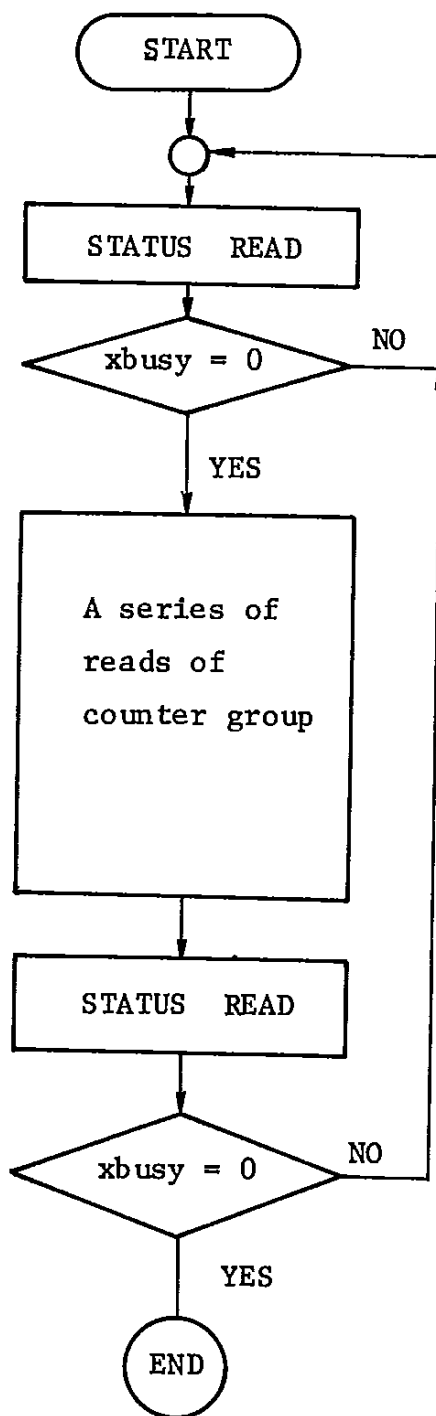

Fig. 5.4 Program Flow (2)
(2) When a series of counter reads requires more than 91 usec, the "xbusy" flag is used. This is such an occasion, for instance, where time data such as year, month, day, day of week, hour, min., sec., are all taken in. At this time, if clock count pulses are inserted during read, data before and after the pulse insertion may become wrong. The way of checking "xbusy" flag to detection the clock count pulse is effective. As the clock count is occurred once per second, even if the first trial is not good, next trial is surely successful. (Note = It is assumed that a time for a series of reads is sufficiently shorter than one second.) The program flow at this time is shown in Fig. 5.4.